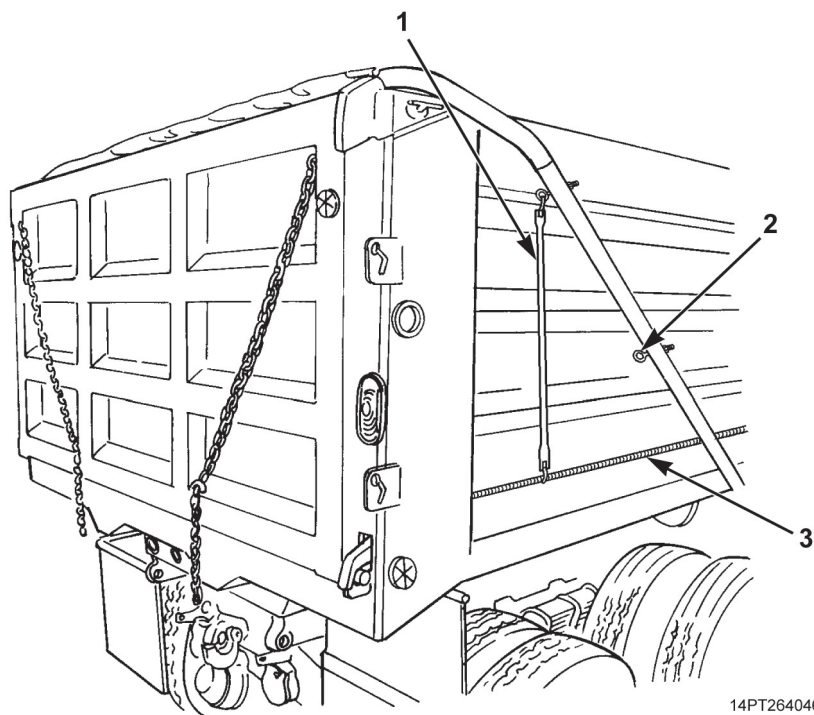

Figure 11. Covering Load.
- e. Unfasten rubber strap (Figure 11, Item 1) from eyebolt (Figure 11, Item 2) and fasten to dump body weldment (Figure 11, Item 3).